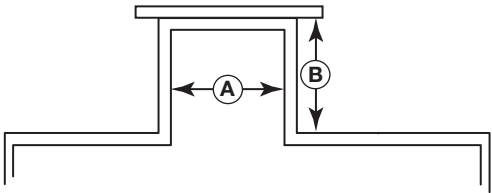

Figure 2
- 1. Nozzle must be 3/4" (19 mm) diameter (A) or larger.
- 2. Ratio of diameter (A) to length (B) is 1:1 or greater. Any ratio < 1:1 (e.g., a 2" x 6" nozzle = 1:3) can be used but may require a BLOCKING DISTANCE and/or SENSITIVITY adjustment. See Figure 2.